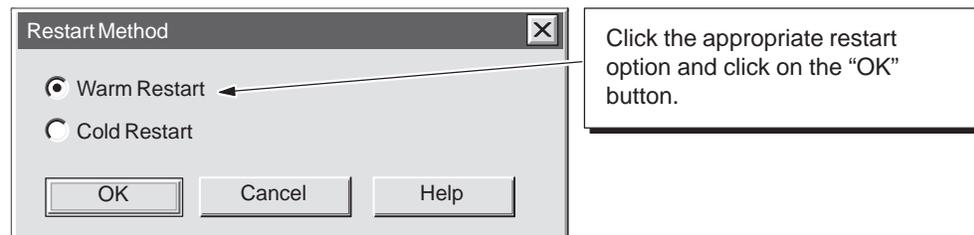

Figure 4-8 Selecting a Cold Restart or a Warm Restart
- When you use the **CPU** menu commands (**CPU ▶ RUN** or **CPU ▶ RUN-P**) to change the operating mode, WinLC displays the “Restart Method” dialog box that allows you to select a cold restart or a warm restart. See Figure 4-8. Select the type of restart and click on the “OK” button.